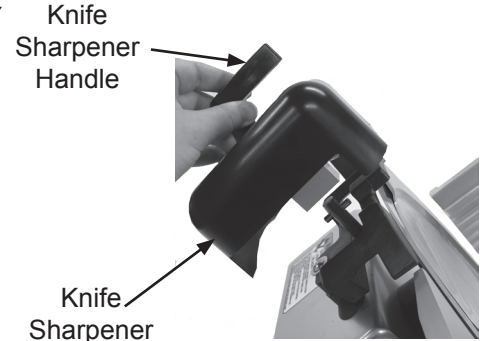

Figure 16-1
3. Pull knife sharpener handle toward the front so sharpening stone and honing plate make contact with knife (Fig. 16-1). Maintain pressure on the knife sharpener handle for 5-10 seconds.